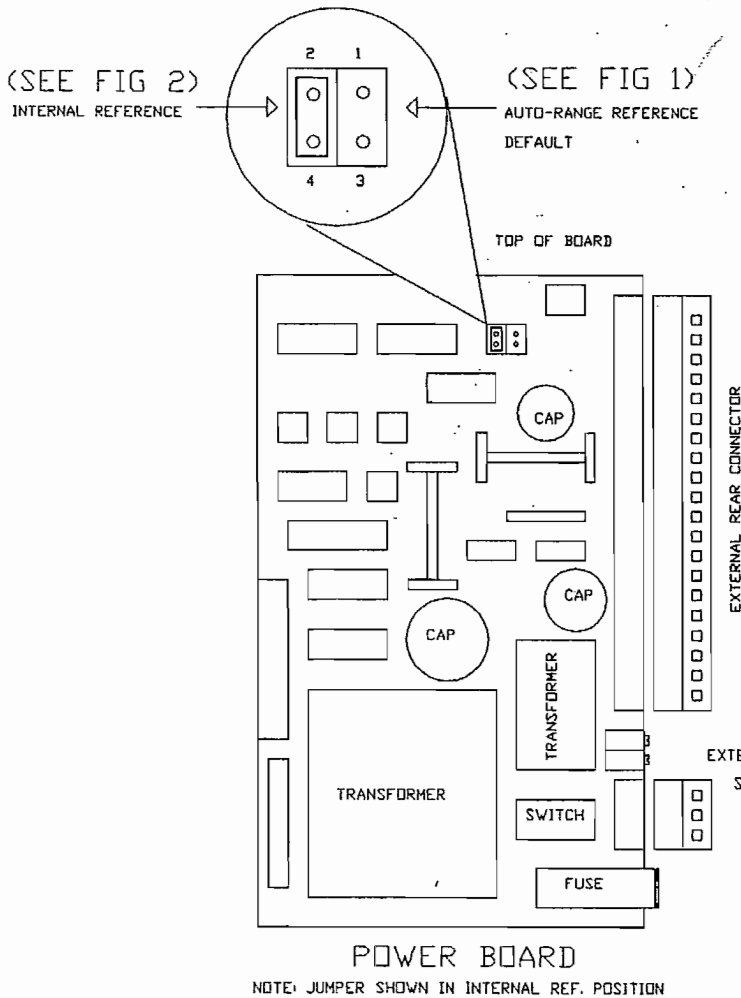

FIG 3
3.1 "Configuration" involves setting switches and positioning jumpers inside the M-TRACK. This is necessary only if your requirements differ from the factory default settings and will require removing the backplate to gain access. The default settings are set in **bold type** and identified in the figures 3 and 4.